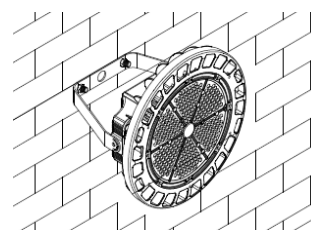

FIG. 8
- Install the fixture on suitable mounting surface. See Fig. 8